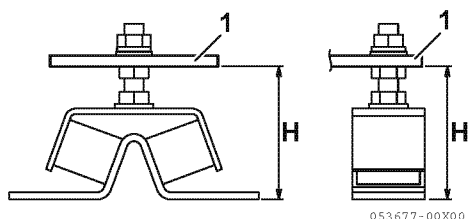

Figure 5-29
4. Adjust the engine mounts to the approximate position that represents the propeller shaft. When fixing the flexible engine mount (1, **Figure 5-29**) to the jig, ensure that dimension "H" is in the center of the adjusting range.